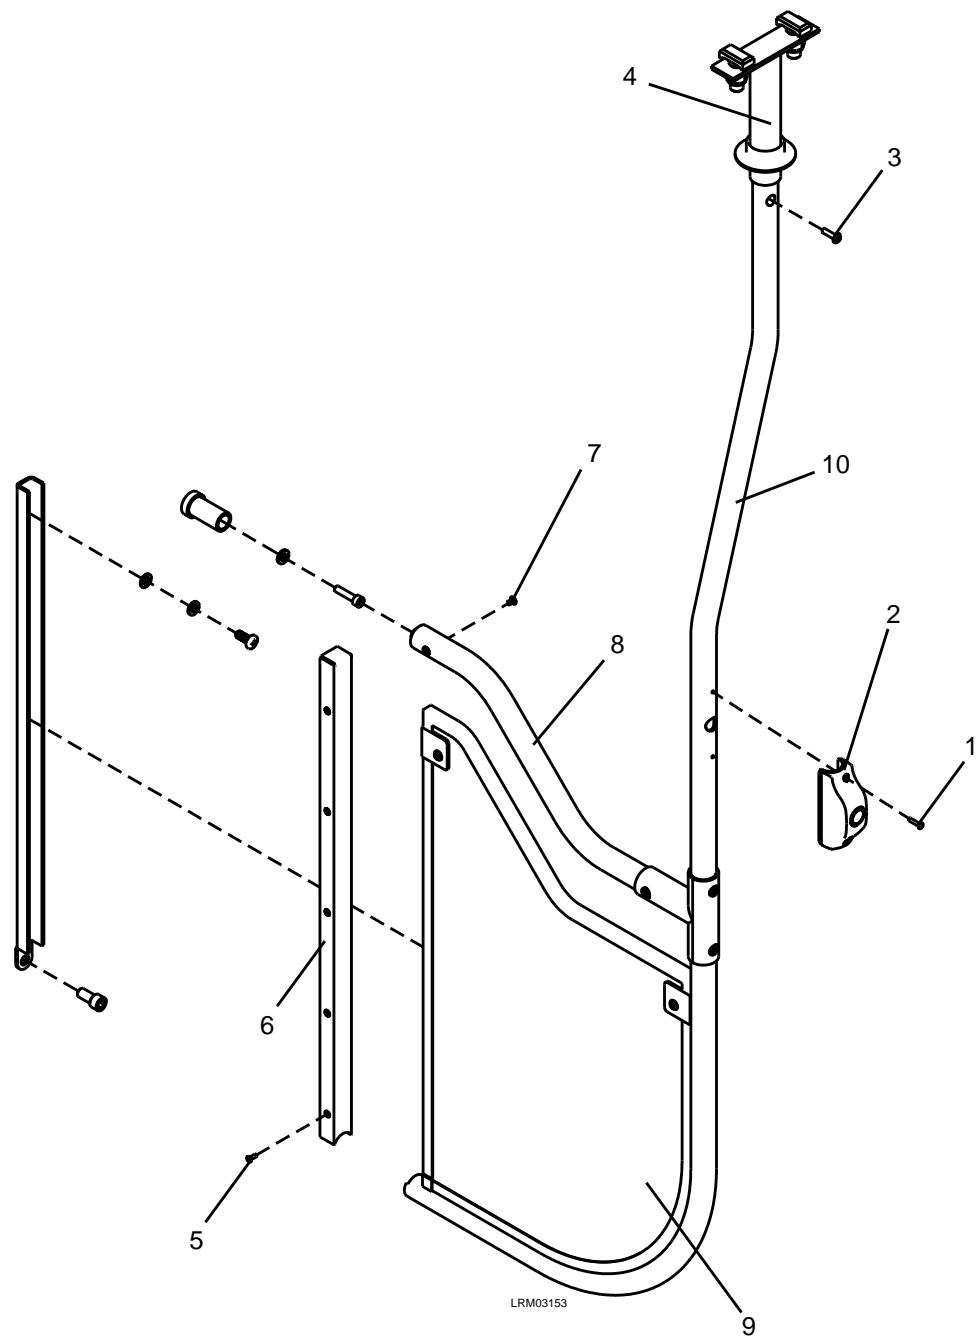

Figure 7-80: End Windscreen
1. Remove the two M4 x 20 screws (1) from the Interior Passenger Pushbutton (2). See Figures 7-80 and 7-81.
2. Remove the Interior Passenger Pushbutton (2) to access the wiring.
3. Disconnect the electrical connector and remove the Interior Passenger Pushbutton (2).
1. Remove the M4 x 8 screw (3) from the stanchion support (4). See Figure 7-80.
2. Remove the ten M4 x 8 screws (5) from the wall channel (6).
3. Remove the two M5 x 8 screws (7) from the grab rail (8).
4. Remove the End Windscreen (9) along with the stanchion (10).